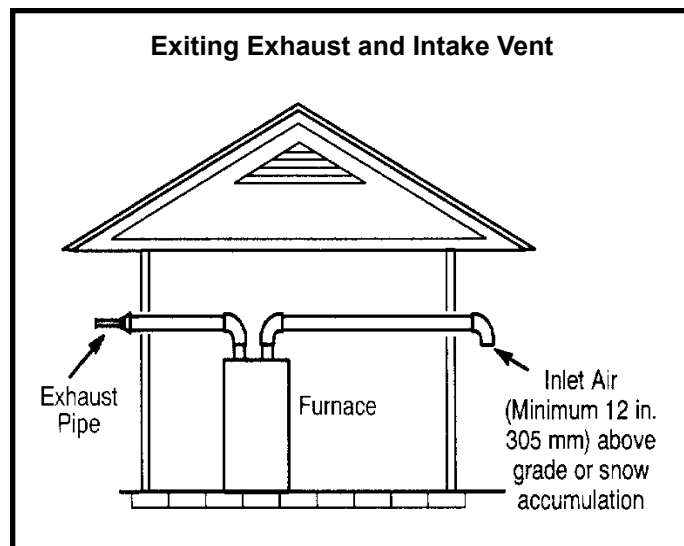

Figure 22
- On field supplied terminations for sidewall exit, exhaust piping may extend a maximum of 12 inches (305 mm) for 2" PVC and 20 inches (508 mm) for 3" (76 mm) PVC beyond the outside wall. Intake piping should be as short as possible. See Figures 22 and 23.
- On field supplied terminations, a minimum distance between the end of the exhaust pipe and the end of the intake pipe without a termination elbow is 8" and a minimum distance of 6" with a termination elbow. See Figures 22 and 23.
- If intake and exhaust piping must be run up a side wall to position above snow accumulation or other obstructions, piping must be supported every 24" (610 mm) as shown in Figures 22 and 23. In addition, close coupled wall termination must be extended for use in this application. See Figures 22 and 23. When exhaust and intake piping must be run up an with pipe sized per Table 7. The intake piping may be equipped with a 90° elbow turndown. Using turndown will add 5 feet (1.5 m) to the equivalent length of the pipe.